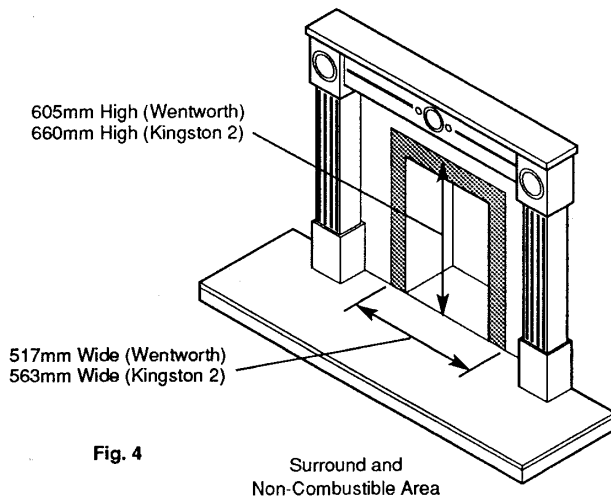

Fig. 4
3. The fireplace must have a flat vertical surface measuring 605mm (23 13/16 in) high by 517mm (20 1/8 in) wide (Wentworth) or 660mm (26 in) high by 563mm (22 5/32 in) wide (Kingston 2), centrally placed about the opening. This allows an effective seal to be made between the wall and fire. **Also this area must be of non-combustible material**, If a fire surround is to be fitted its rear section must meet the same requirements. Any gaps between the wall and surround must be sealed (Fig. 4).